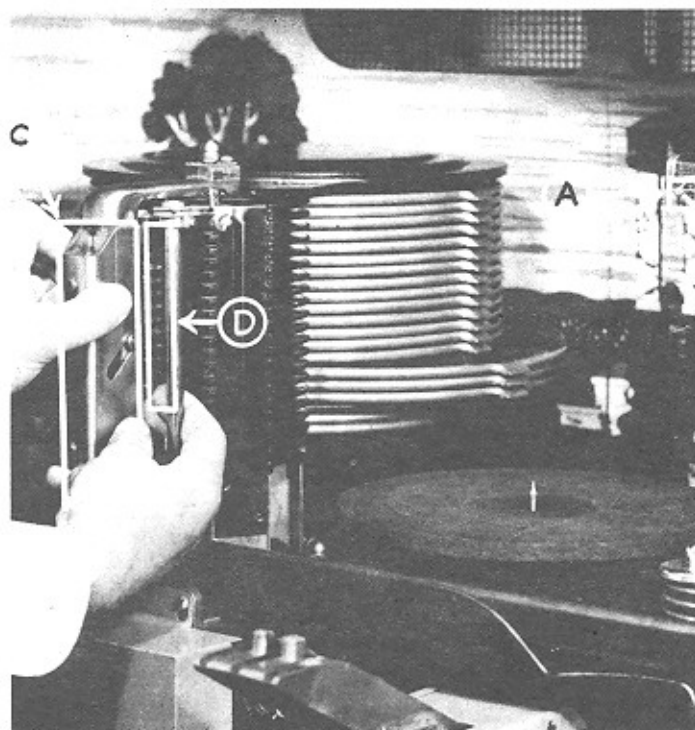

Fig. 4—Tray Release
1. Pull out tray release bar (C Fig. 4).
2. Unhook tray unlocking dog (D Fig. 4) to bring tray from stack.